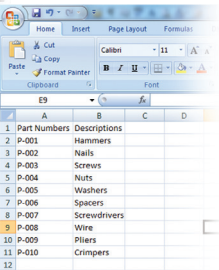

FIGURE 6 Enter data under Column B that relates to the data on the corresponding row of Column A.
- C. Now enter the data for **Column B**, e.g., Descriptions, that relates to the data in corresponding rows of Column A (Fig. 6).